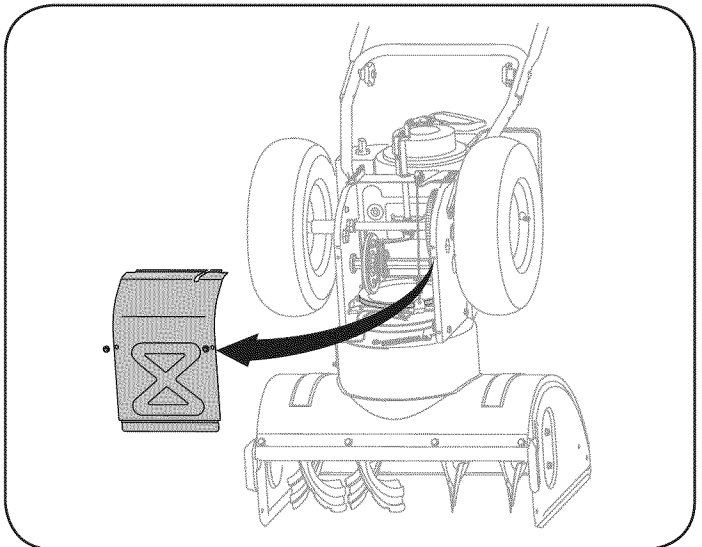

Figure 30
5. Remove the frame cover from the underside of the snow thrower by removing the self-tapping screws which secure it. See Figure 30.
5. Remove the frame cover from the underside of the snow thrower by removing the self-tapping screws which secure it. Refer to Figure 30.